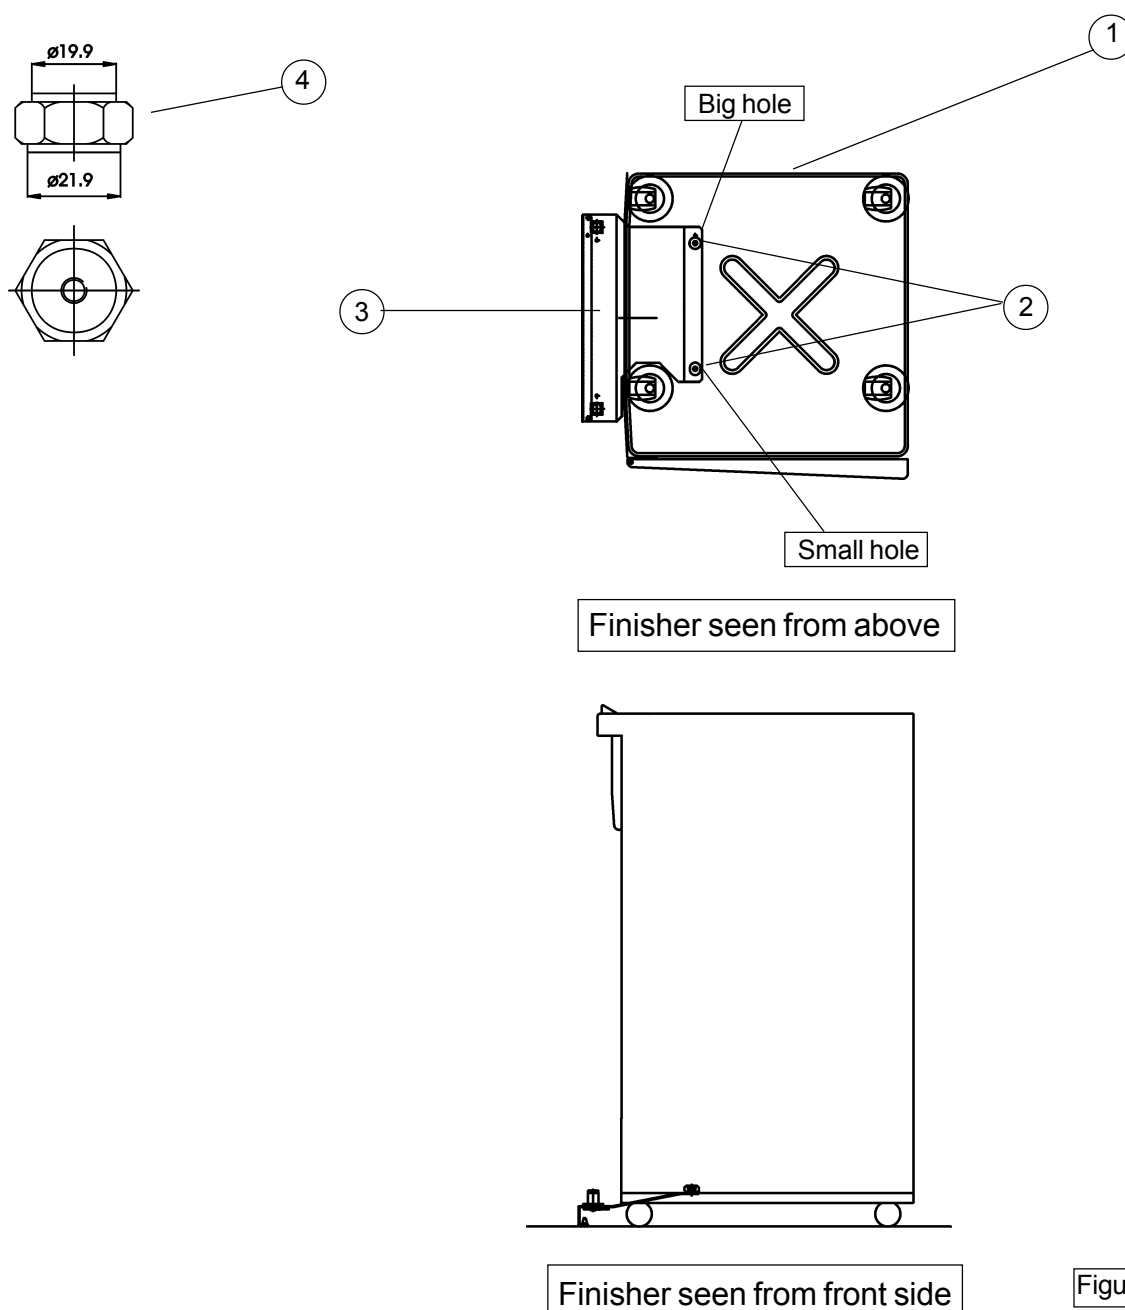

Figure 7
2. Remove the rear cover on the printer finisher (1).
4. Remove the two black plastic covers (2) at the bottom of the printer finisher by removing two 5.5 mm screws, figure 7.
5. Take the docking assembly (3) and install it with two positioning screws in the holes who were under the black plastic covers (2). Secure the docking assembly with the two nuts (4). Make sure you turn the nuts correct, one diameter for the small hole and one diameter for the big hole.